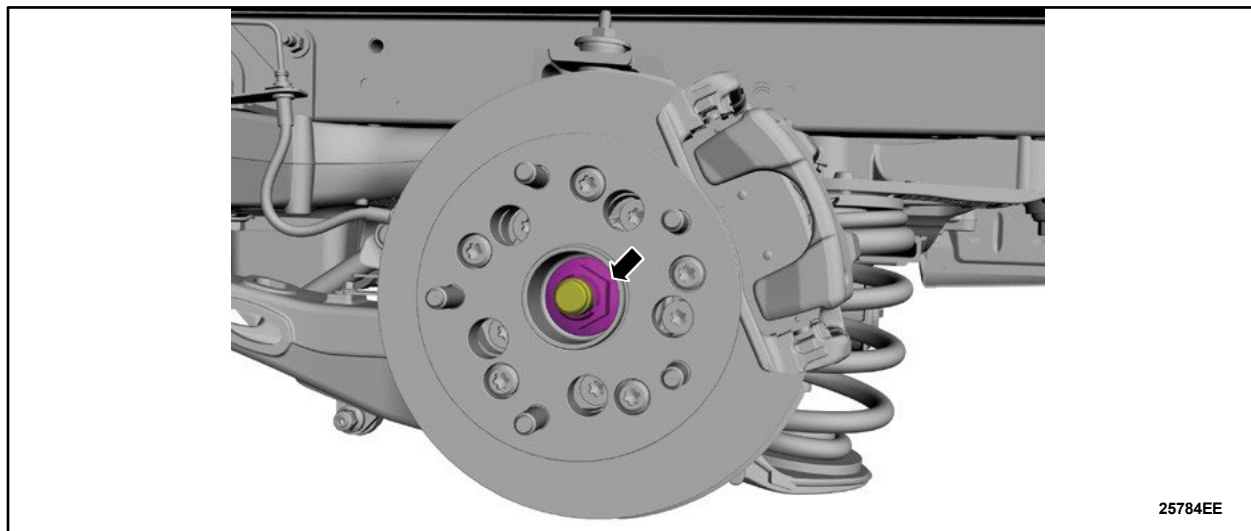

FIGURE 37
41. As needed, install the *new* wheel hub nut. See Figure 37.